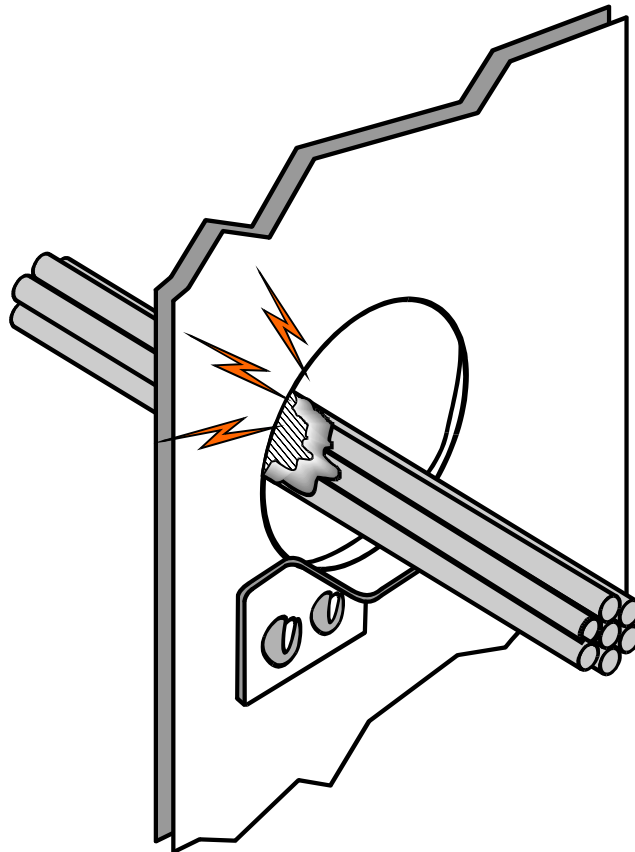

Figure 17-3 Chafed Conductors
27. Chafing causes the insulation of the cable to be worn away and if not detected early, could lead to eventual breaking and shorting/arcing of the conductor as shown in Figure 17-3.